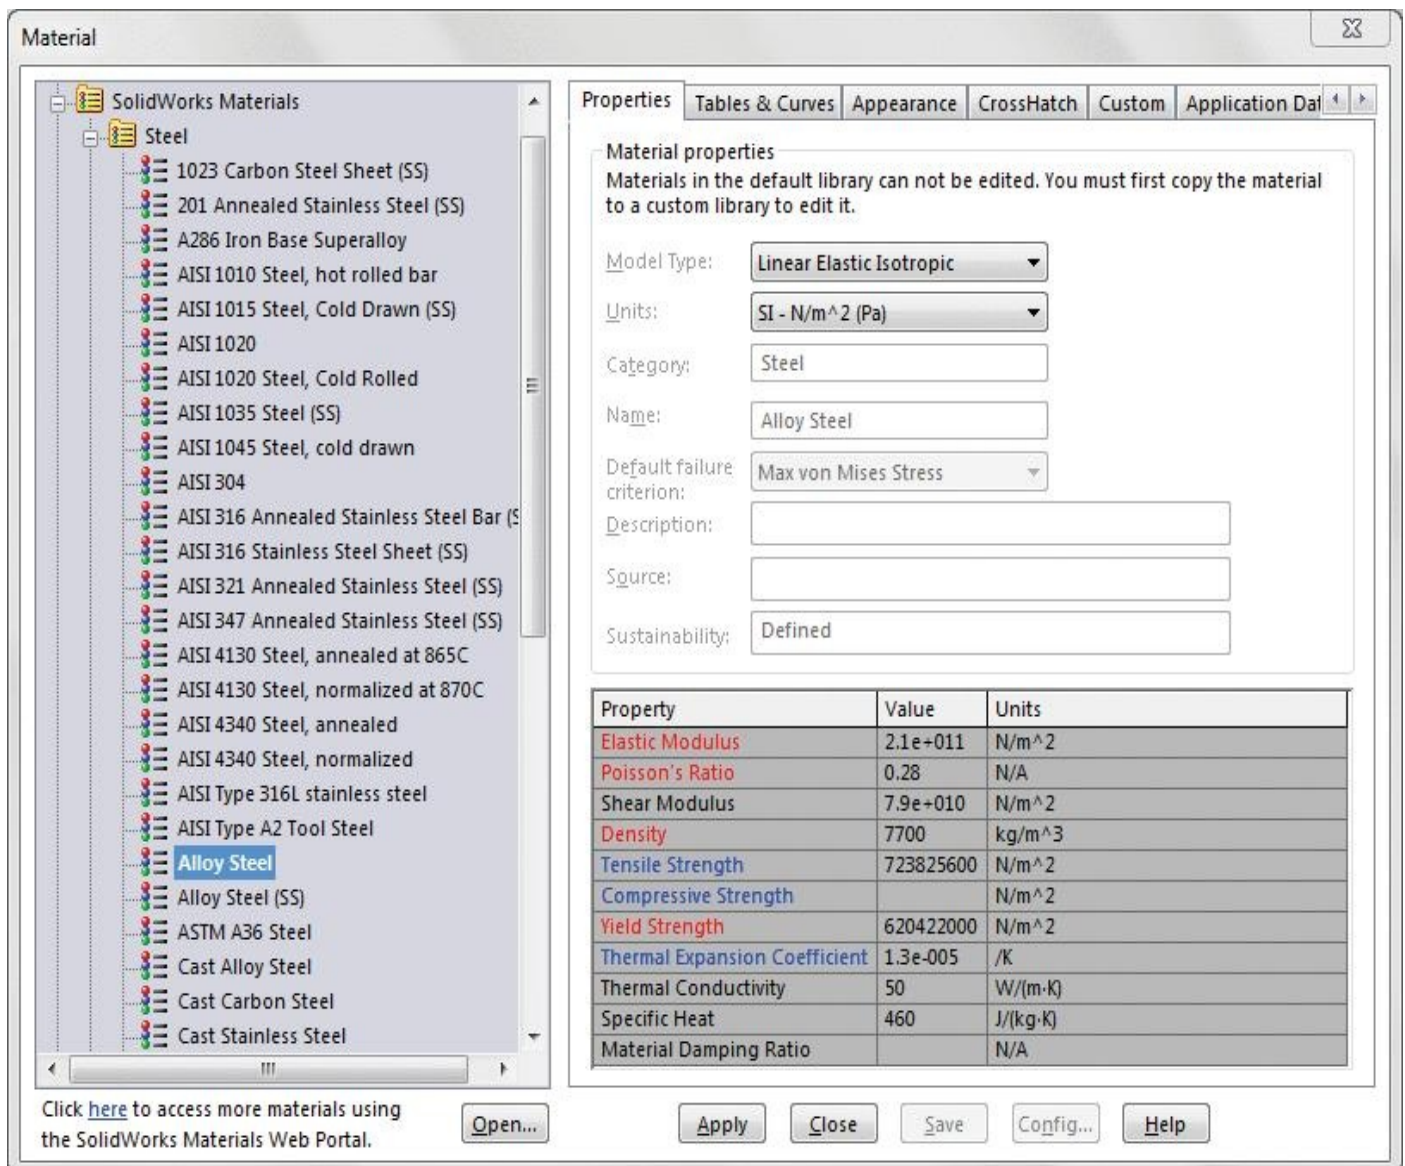
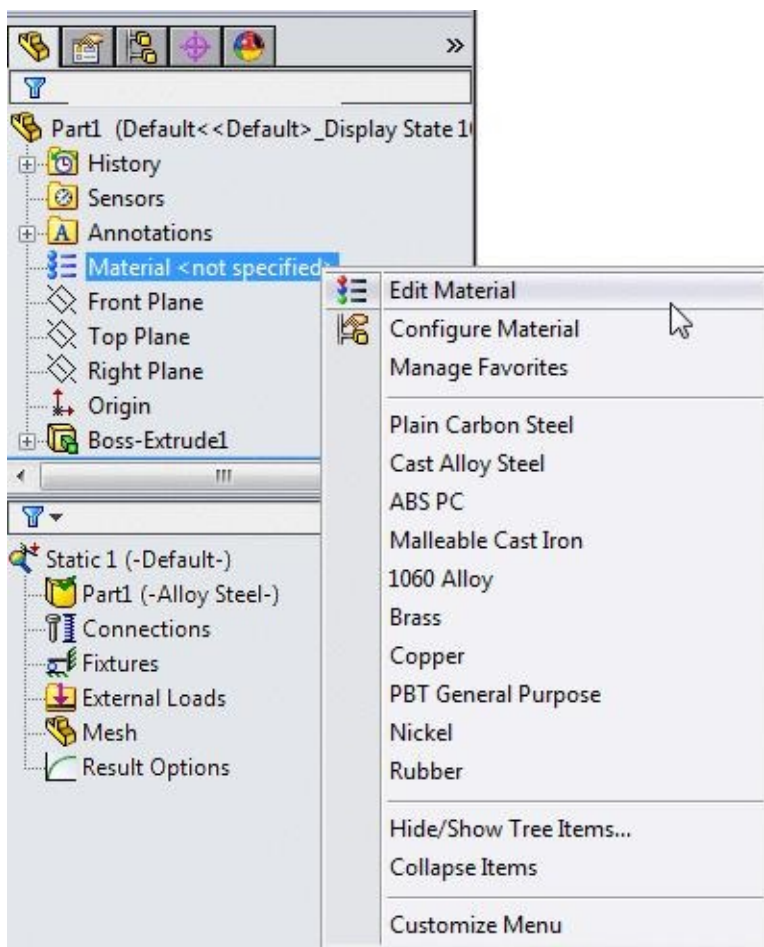

Figure-2. Material dialog box
Figure-3. Edit Material option
- Click on the **Apply Material** button from the **Simulation** tab in the **Ribbon**. The **Material** dialog box will display as shown in Figure-2.
- Right-click on the **Material** option from the **Feature Manager Design Tree** and select the **Edit Material** option from the short-cut menu displayed; refer to Figure-3. The Material dialog box will be displayed as shown in Figure-2 earlier.